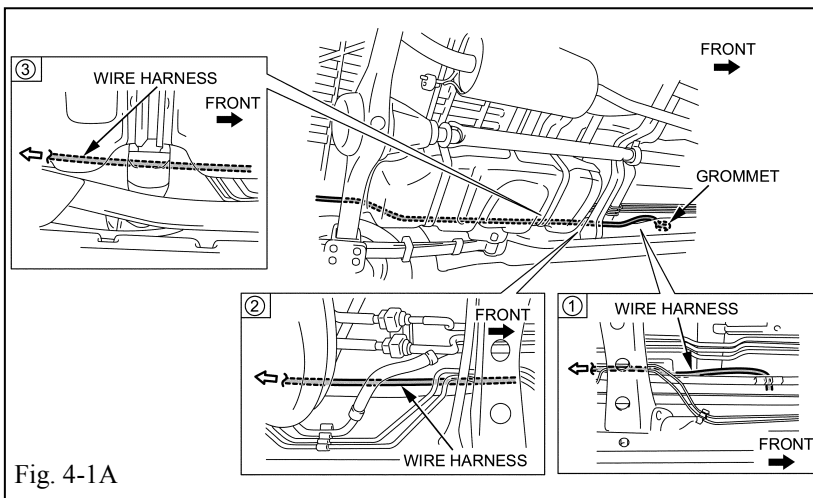
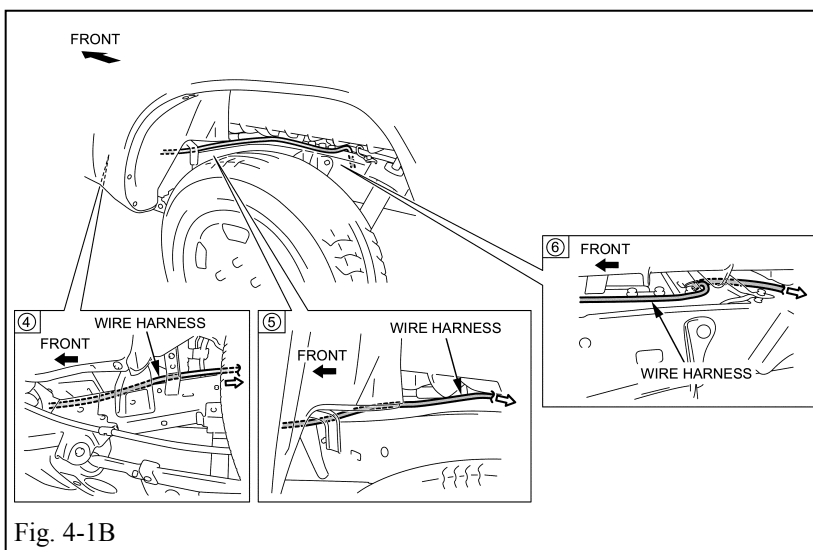

Fig. 4-1A
Fig. 4-1B
- (1) Route the 4-pin wire harness as shown in the figure. (Fig. 4-1A) (Fig. 4-1B)